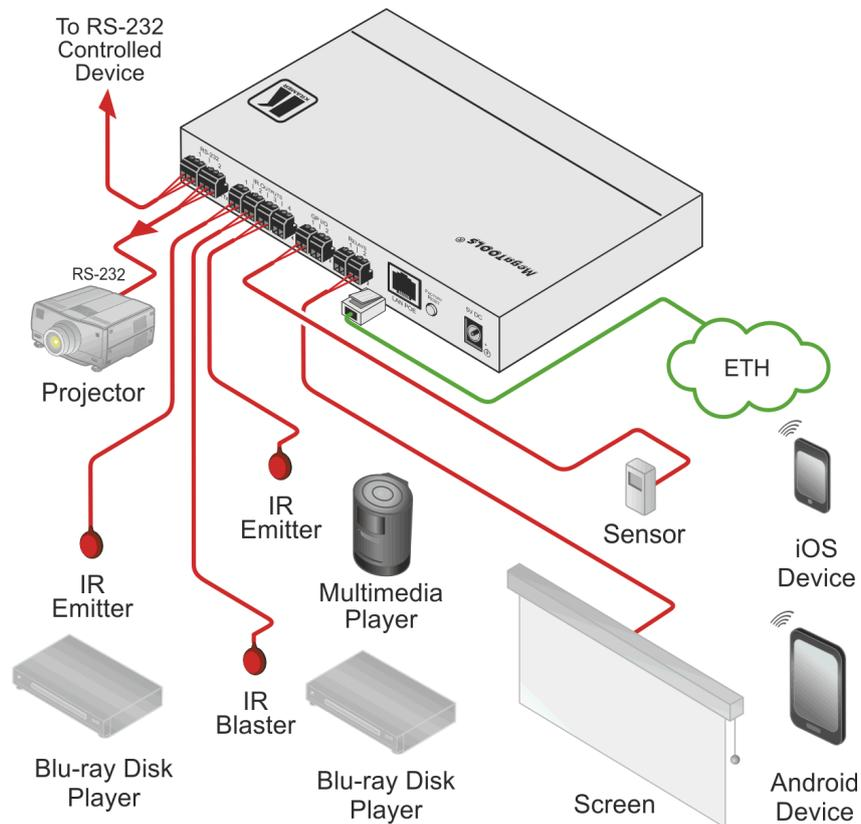

Figure 6: Connecting the FC-28 Ethernet Controller
**To connect the FC-28 as illustrated in the example in Figure 6:**
6. If the **FC-28** cannot be powered by a PoE power source, connect the device to the power adapter and connect the power adapter to the mains electricity (not shown in Figure 6).